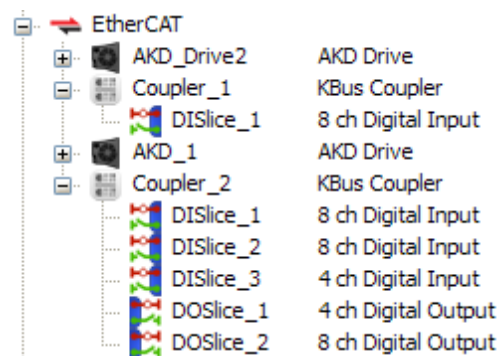

Figure 4-14: EtherCAT Network - Logical View
- Map them to items in the EtherCAT node of the Project Explorer (see "Figure 4-14: EtherCAT Network - Logical View " on page 163)